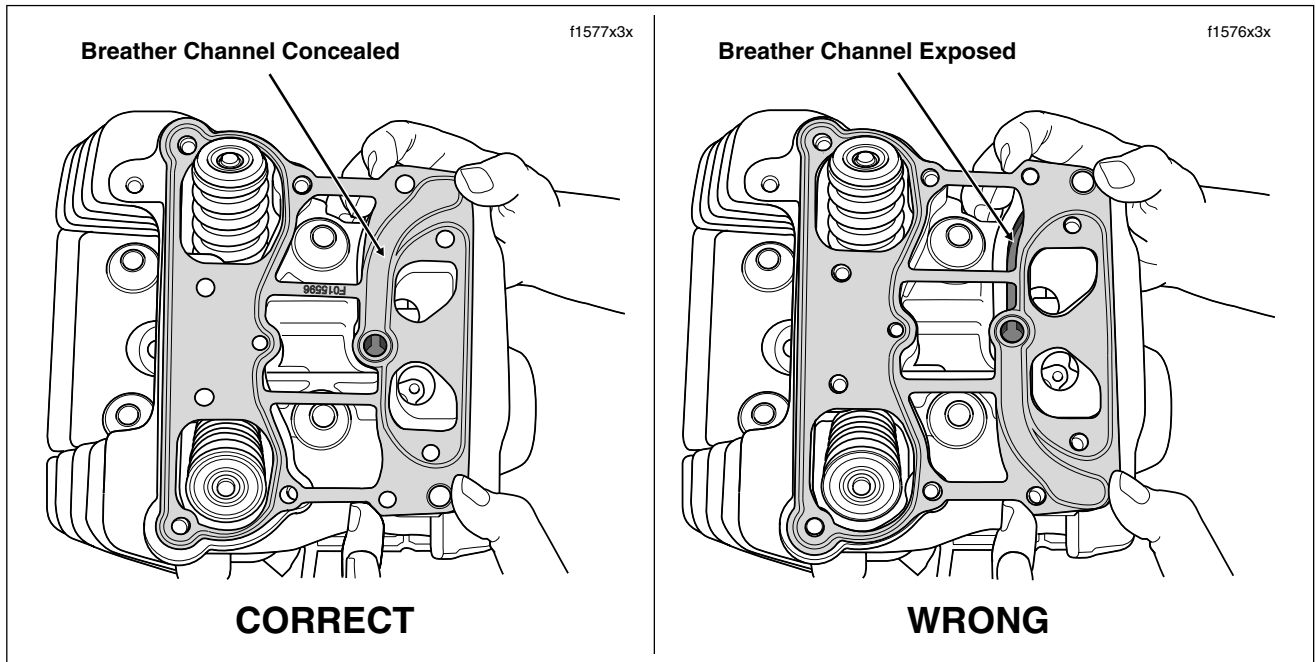

Figure 3-35. Install Rocker Housing Gasket (Rear Cylinder Shown)
21. Verify that the rocker housing gasket is installed correctly by noting that the breather channel is concealed. See Figure 3-35.